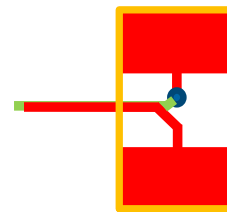

FIGURE 9. RECOMMENDED LAYOUT PATTERN FOR CURRENT SENSE TRACES REGULATOR
13. For the current sensing traces close to the power sense resistor (R_{SENx}), the layout pattern shown in Figure 9 is recommended. Assuming the R_{SENx} is placed in the top layer (red), route one current sense connection from the middle of one R_{SENx} pad in the top layer under the resistor (red trace). For the other current sensing trace, from the middle of the other pad on R_{SENx} in top layer, after a short distance, via down to the second layer and route this trace right under the top layer current sense trace.